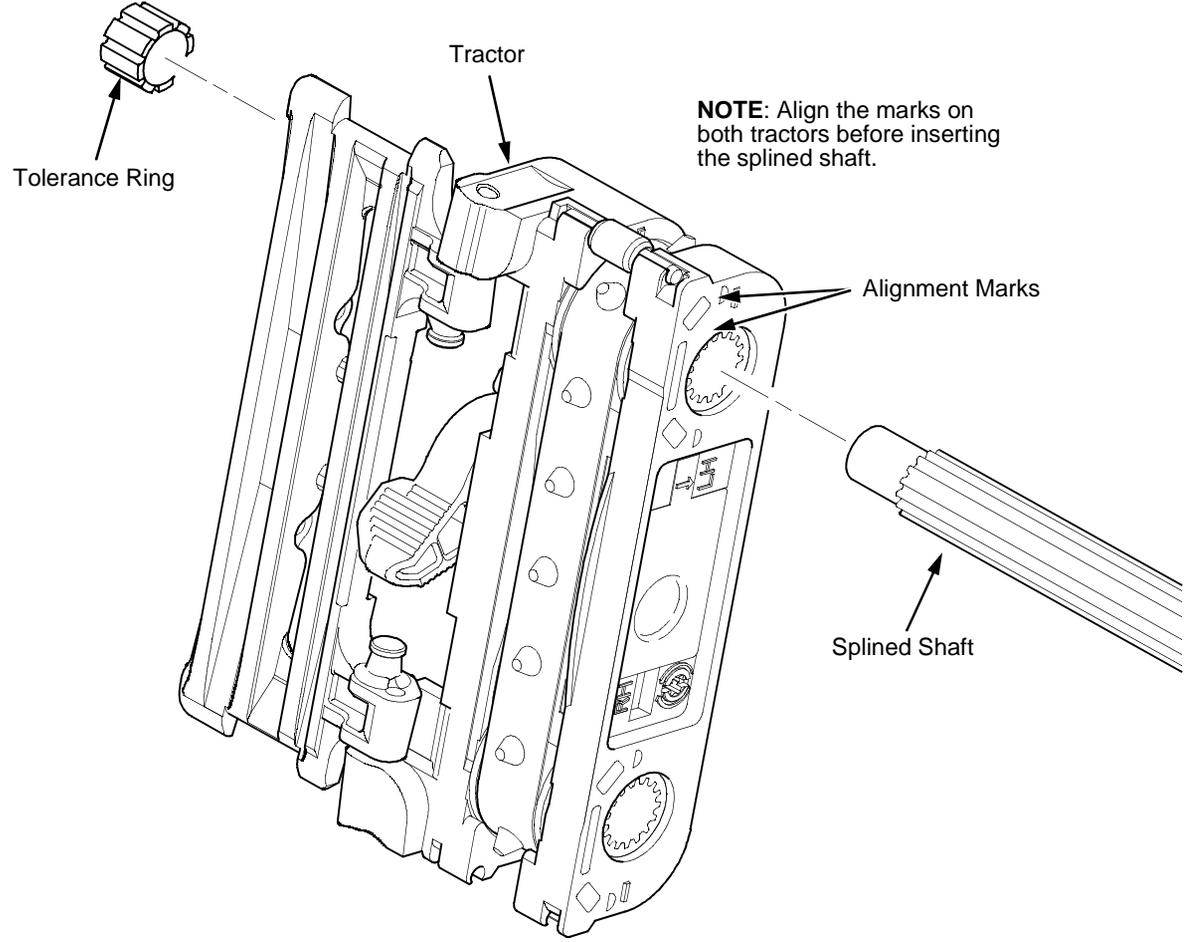

Figure 32. Splined Shaft and Tractor Installation, Later Models
2. Grasping the vertical adjustment knob, slide the splined shaft through the right side plate and tractors. Make sure the same spline passes the marked groove on each tractor. (See Figure 32.)
3. Install the tolerance ring on the left end of the splined shaft (page 498, item 5).
4. Insert the tolerance ring lead-in portion into the sealed ball bearing in the left tractor shaft plate (page 498, items 3, 5, and 6) while sliding the ball bearing into the right side plate. Push the splined shaft to the left until the flange on the ball bearing is in solid contact with right side plate. The splined shaft will protrude about 1/16 inch from the ball bearing.
5. Install the right tractor shaft plate and screw (page 498, items 7 and 8) by first sliding the upper “fingers” up and against the flange on the ball bearing, then sliding the rectangular cutout over the support shaft end, then snapping the U-shaped “spring” behind the tab on the right side plate.
- 8. Install the paper supports on the splined and support shafts. (See page 498, item 4.)